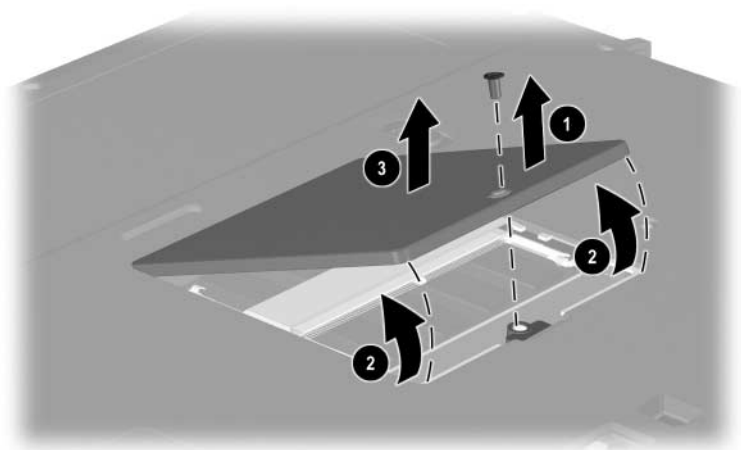

Figure 5-8. Removing the Memory Expansion Compartment Cover
3. Remove the PM2.0 \times 5.0 screw ❶ that secures the memory expansion compartment cover to the base enclosure (Figure 5-8).
4. Lift the front edge of the cover and swing it back ❷.
5. Remove the cover ❸.